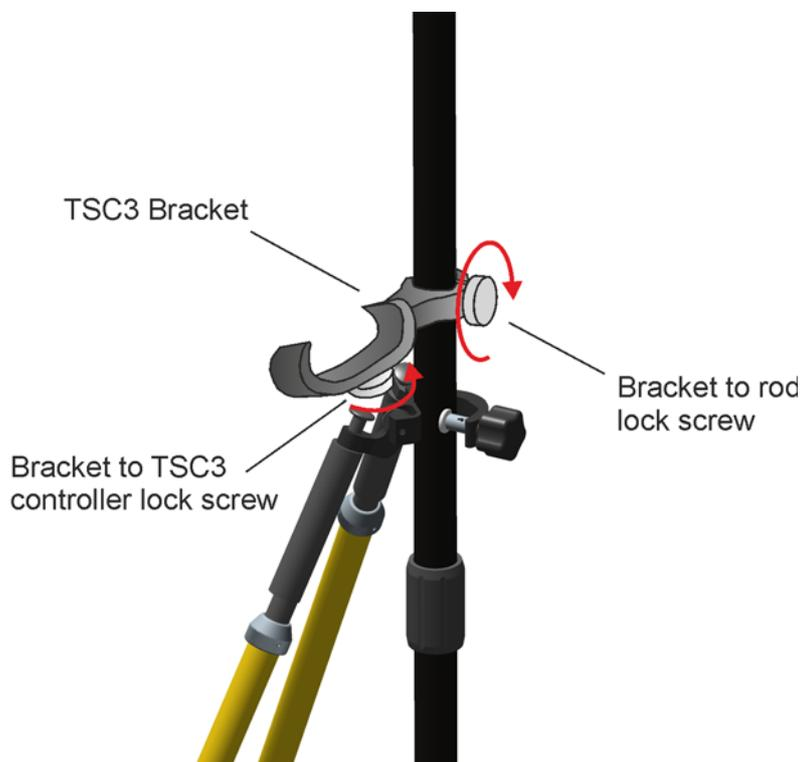

Figure 2.24 Mounting the TSC3 bracket to the rod
2. Attach the TSC3 Controller to the bracket and tighten the bracket to TSC3 controller lock screw, see Figure 2.24.